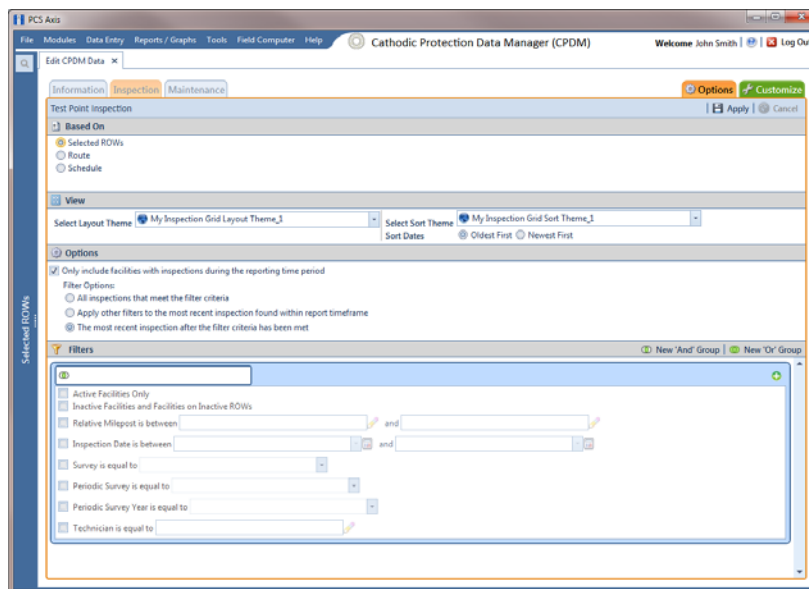

Figure 6-24. Options
- b Click the **Options** tab to open the options page. Then click the option **Selected ROWs** in the *Based On* group box (Figure 6-24).
- c** To apply a filter to the grid, click the check box for a filter listed in the *Filters* group box (Figure 6-24, page 184).